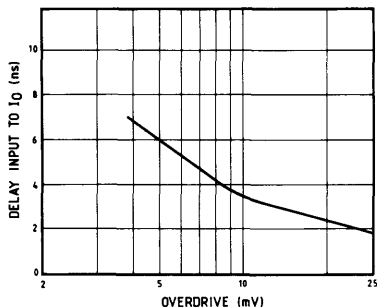

Fig.5 Input to I_o output delay v. overdrive
3. Due to the relatively low gain of the comparator in the unclatched state, propagation measurements are defined with a 25 mV overdrive. The relationship between overdrive and delay is shown in Figs.5 and 6.